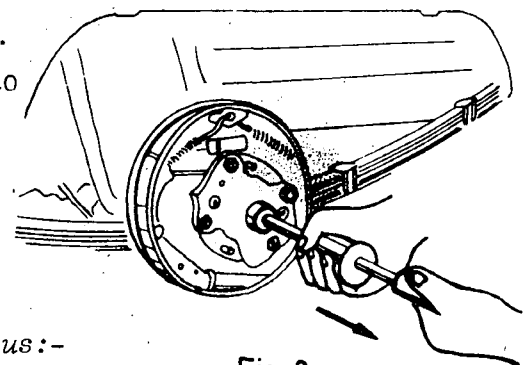

Fig. 2
- b) Install the extracting tool to the semi-axle (fig. 2).